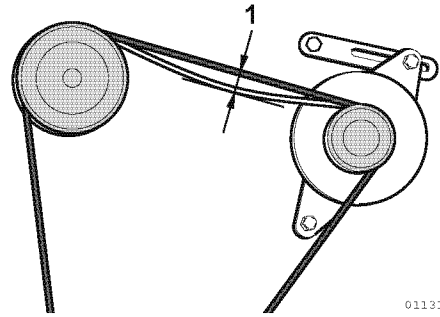

Figure 13
2. Check the belt by pushing on the middle of the belt (**Figure 13, (1)**) with your finger.